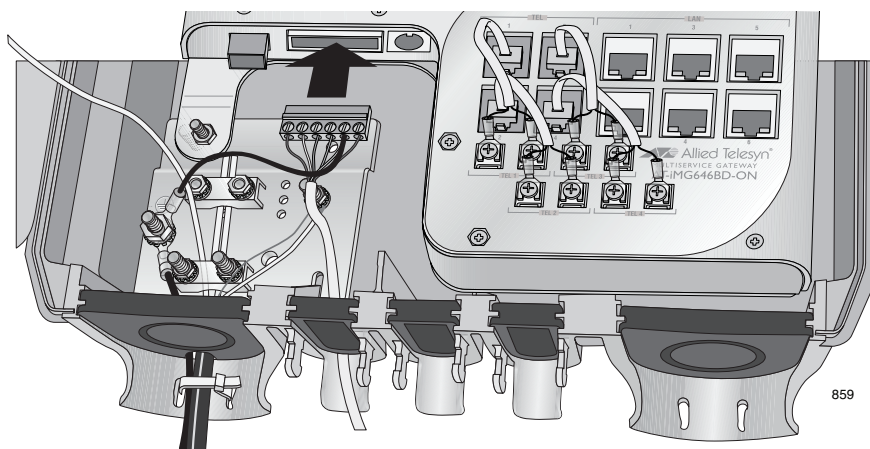

Figure 36. Plugging in the DC Terminal Block
14. Plug the terminal block into the DC power socket, as shown in Figure 36.